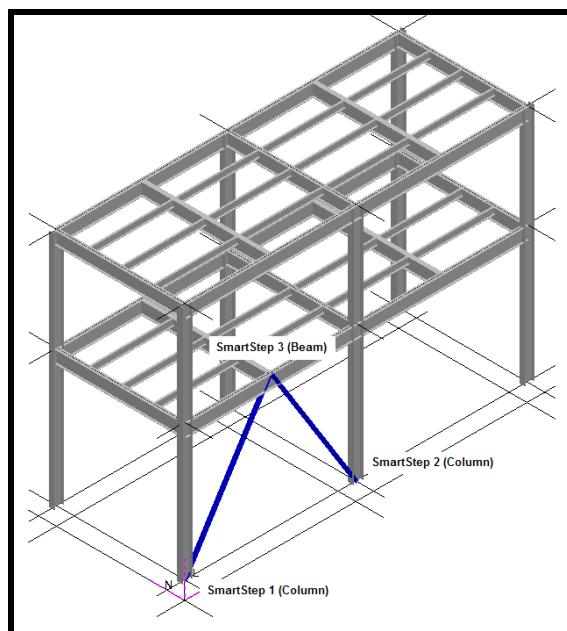

Figure 7 –Isometric View of the Structure U02
13. Select the first column for the first SmartStep (See figure 7).